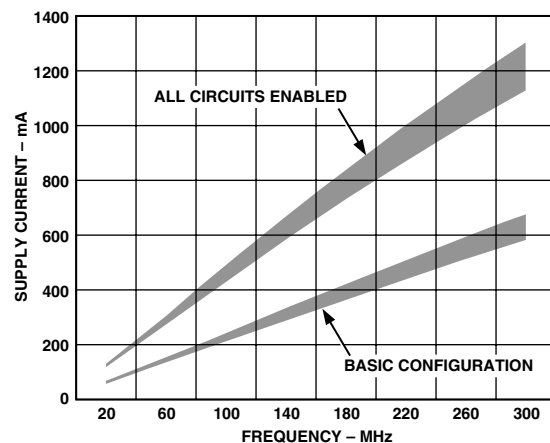
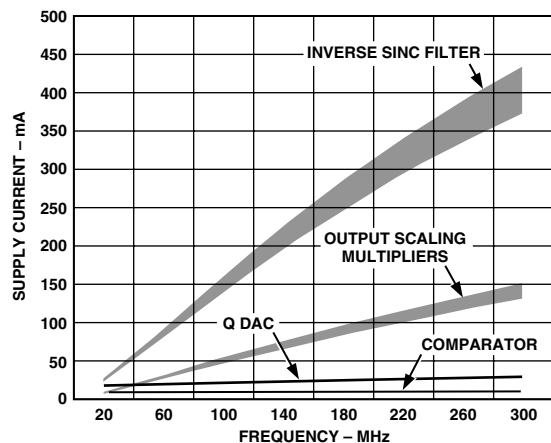

Figure 36a. Current Consumption vs. Clock Frequency
Figure 36b. Current Consumption by Function vs. Clock Frequency
**Mode of Operation**—The selected mode of operation for the AD9854 has a great influence on total power consumption. The AD9854 offers many features and modes, each of which imposes an additional power requirement. The collection of features contained in the AD9854 target a wide variety of applications and the device was designed under the assumption that only a few features would be enabled for any given application. In fact, the user must understand that enabling multiple features at higher clock speeds may cause the maximum junction temperature of the die to be exceeded. This can severely limit the long-term reliability of the device. Figures 36a and 36b provide a summary of the power requirements associated with the individual features of the AD9854. These charts should be used as a guide in determining the optimum application of the AD9854 for reliable operation.
As can be seen in Figure 36b, the Inverse Sinc filter function requires a significant amount of power. As an alternate approach to maintaining flatness across the output bandwidth, the digital multiplier function may be used to adjust the output signal level, at a dramatic savings in power consumption. Careful planning and management in the use of the feature set will minimize power dissipation and avoid exceeding junction temperature requirements within the IC.
Figure 36a shows the supply current consumed by the AD9854 over a range of frequencies for two possible configurations: *All circuits enabled* means the output scaling multipliers, the inverse sinc filter, the Q DAC, and the on-board comparator are all enabled, while *basic configuration* means the output scaling multipliers, the inverse sinc filter, the Q DAC, and the on-board comparator are all disabled.
Figure 36b shows the approximate current consumed by each of four functions.
Figures 36a and Figure 36b may be used to determine the suitability of a given AD9854 application vs. power dissipation requirements. These graphs assume that the AD9854 device will be soldered to a multilayer PCB per the recommended best manufacturing practices and procedures for the given package type. This ensures that the specified thermal impedance specifications will be achieved.